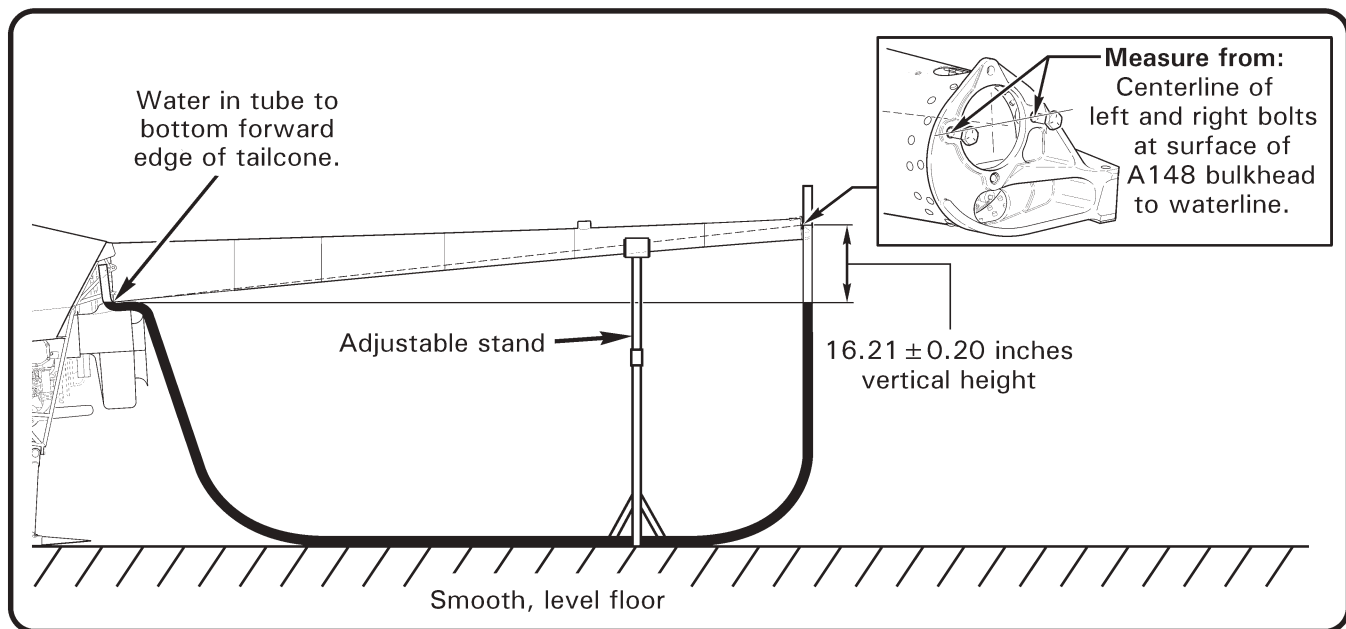

FIGURE 4-2C TAILCONE VERTICAL ALIGNMENT
5. Refer to Figure 4-2C. Use a water level and measure the difference in vertical height between forward end of tailcone (at lowest point) and centerline of left & right bolts at surface of A148 bulkhead. Using stand, adjust height of tailcone to 16.21 ± 0.20 inches.